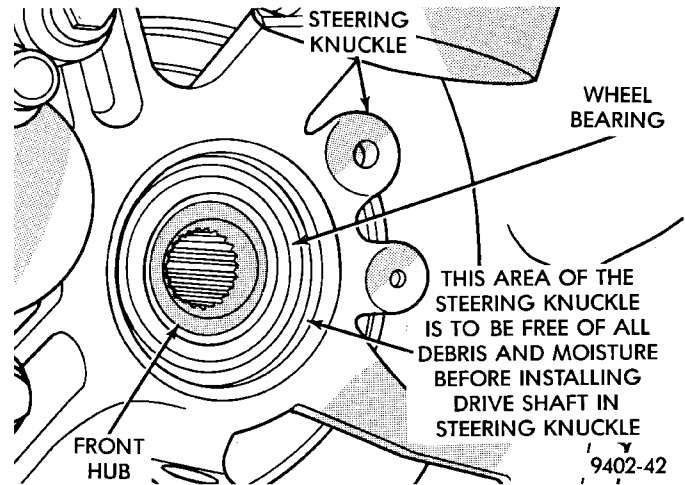

Fig. 16 Steering Knuckle to C/V Joint Sealing Area
(4) Clean all debris and moisture out of steering knuckle (Fig. 16).